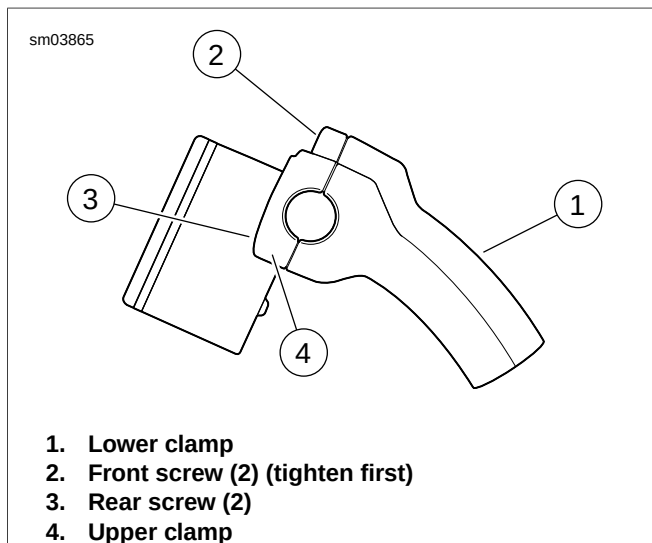

Figure 2-227. Handlebar Riser: XL 883C/XL 1200C
2. Slide right handlebar control housing and throttle assembly (4, 6, 9) onto right end of handlebar (5). Position handlebar on lower handlebar clamp.
3. Place upper handlebar clamp/speedometer housing (2) in position and thread four screws (3) in place.
4. See Figure 2-227. Adjust handlebars to desired position. Tighten front screws (2) first, to 12-18 ft-lbs (16.3-24.4 Nm). Then tighten rear screws (3) to 12-18 ft-lbs (16.3-24.4 Nm).